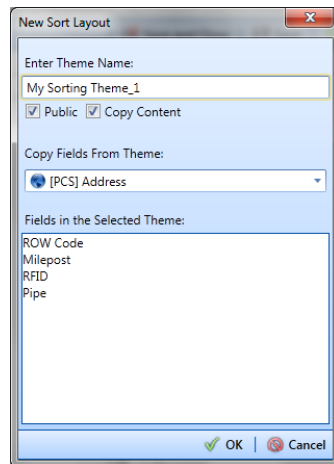

Figure 7-46. New Sort Layout
- 4 Click  **Add** to open the *New Sort Layout* dialog box (Figure 7-46, page 333).